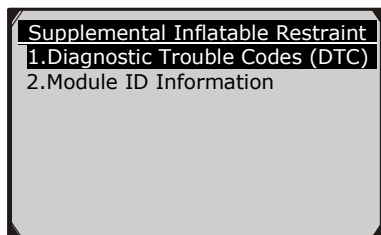

Figure 6.8
- 7) To review the **Diagnostic Trouble Codes (DTC)** or **Module ID Information** saved in the **Supplemental Inflatable Restraint** or **Electronic Brake Control Module** system, use the **UP/DOWN** scroll button to select the desired item. Then press **OK** button to continue. (Figure 6.8)